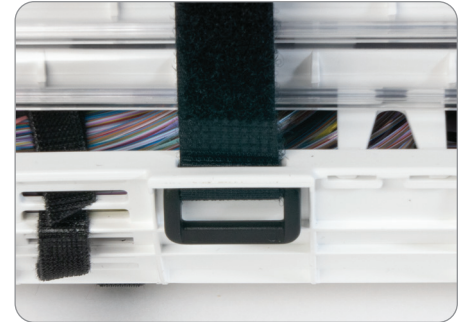

Figure 44
5. Pull the two Velcro straps through the horizontal and vertical strap slots soft side up. (Figure 44)